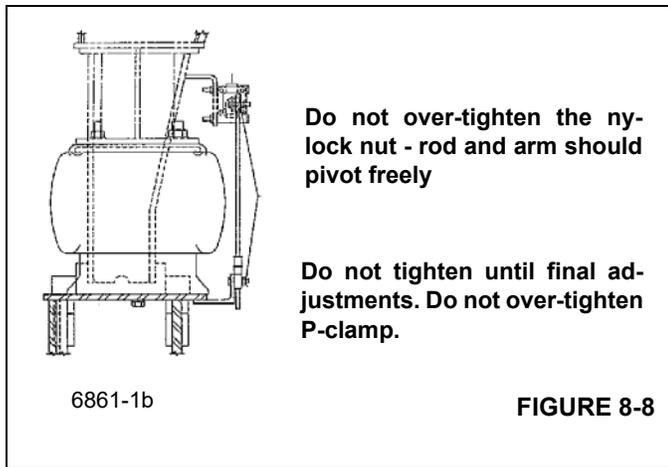

FIGURE 8-8
2. Adjust the rod to achieve proper ride height setting (Figure 8-8) and torque P-clamp on P-boot to 10-15 in lbs.